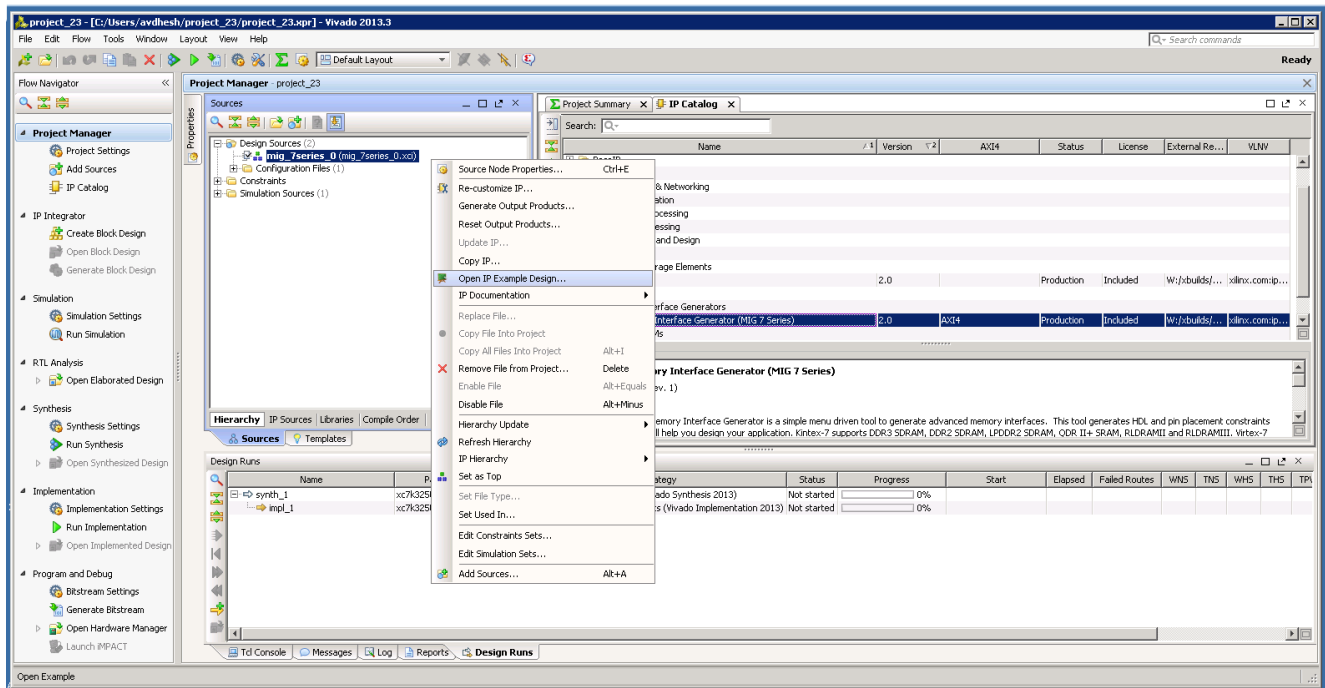

Figure 5-26: Open IP Example Design
- The Vivado Design Suite supports **Open IP Example Design** flow. To create the example design using this flow right-click the IP in the **Source Window**, as shown in Figure 5-26 and select.